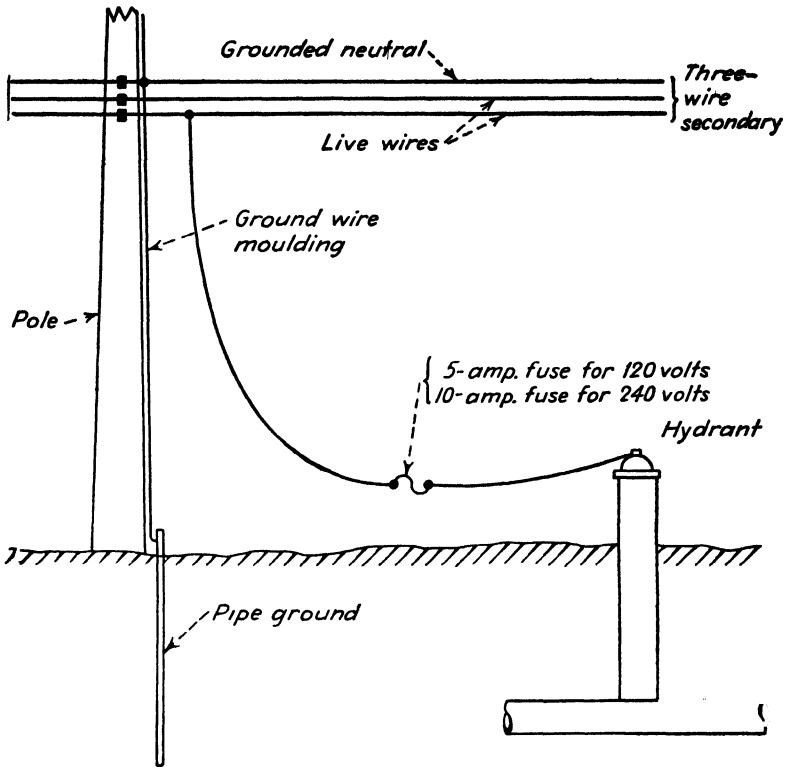

FIG. 20-13. Connections for making test of ground resistance.
**Simple Test.** The simplest ground-resistance test consists in connecting a wire from one of the ungrounded secondary mains to a good ground such as a fire hydrant, water tap, etc., through a fuse (see Fig. 20-13). A 5-amp fuse should be used with secondary circuits which have 120 volts to ground, and a 10-amp fuse should be used with circuits which have 240 volts to ground. If the ground is satisfactory, the fuse will blow. The blowing of the fuse is proof that the resistance is low enough to permit sufficient current to pass to blow the fuse. In the case